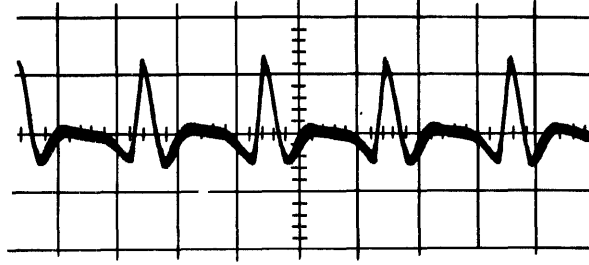

Figure 5-30. Input to Differentiator Board (Series F)
- F. Place the oscilloscope vertical probe on pin 2 of J32 on the Differentiator Board connector. This board is mounted near the front of the card cage (ref. figure 5-3) and is available when the top cover is removed. The input signal to the differentiator board should appear as shown in Figure 5-30.
- G. If the input signal to the differentiator circuit is not approximately as shown in Figure 5-30, replace or check operation of the transducer.